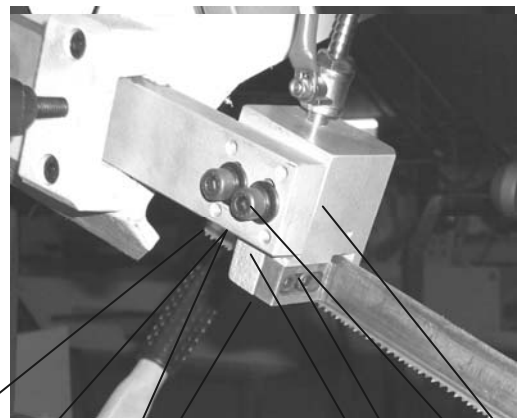

Fig. 2
First loosen screw (A) (fig.2). Move the left blade guide bar to the suitable position. Then tighten screw (A).